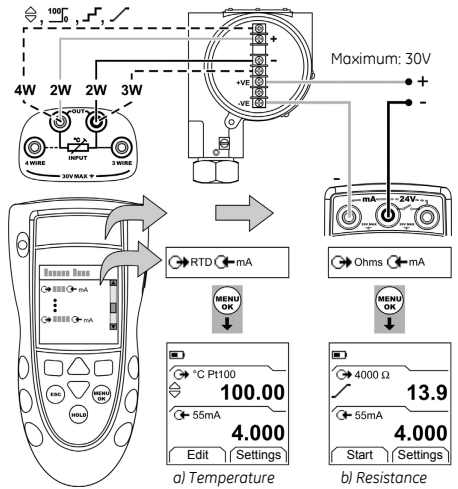

Figure 3: Example configuration - Transmitter calibration with external loop power
1. Connect the instrument (Figure 3/4) and, if necessary, adjust the *Set Up* (Table 1).